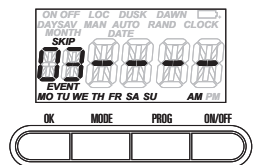

Fig. 17
5. Turn the selector knob until **SKIP** shows in the display and “--” replaces the time (Fig. 17), then press **PROG** to accept the new setting.